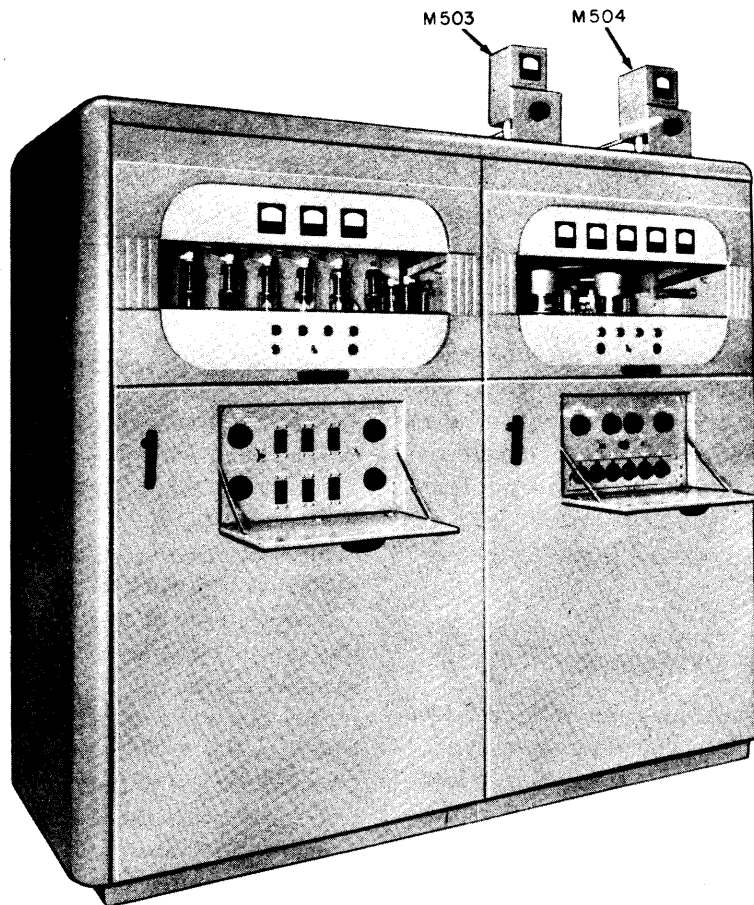

Figure 1-2. Radio Transmitting Set AN/FRT-5A, Front View
a. INTRODUCTION. — Radio Transmitting Set AN/FRT-5A is contained within two handsomely styled sheet metal cabinets, which bolt together to form a single unit, figure 1-2. In addition, there are two small sheet metal enclosures which house the required power transformer and the control unit.